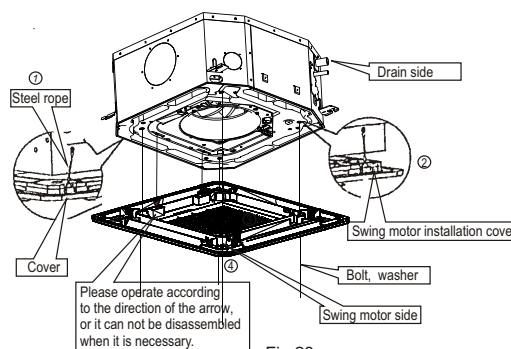

Fig.23
- Align the swing motor on the panel to the water receiver of the body properly. (Refer to Fig.23)
- Hang the four fixed rope of the main body to the installation cover and the other three covers of the swing motor: (Refer to Fig.23 )
- Install the panel on the main body with bolt (M5×16) and washer. (Refer to Fig.23)